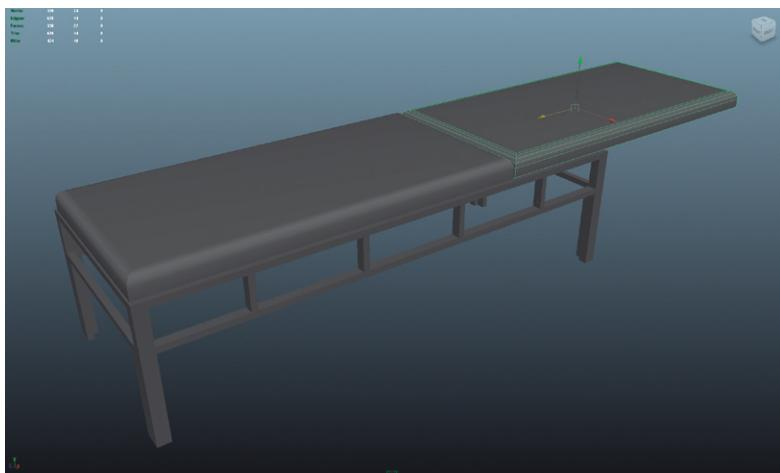

FIG 3.65 Second cushion being maneuvered.
Step 25: Duplicate this cushion and move it up to the head of the bed (Fig. 3.65).